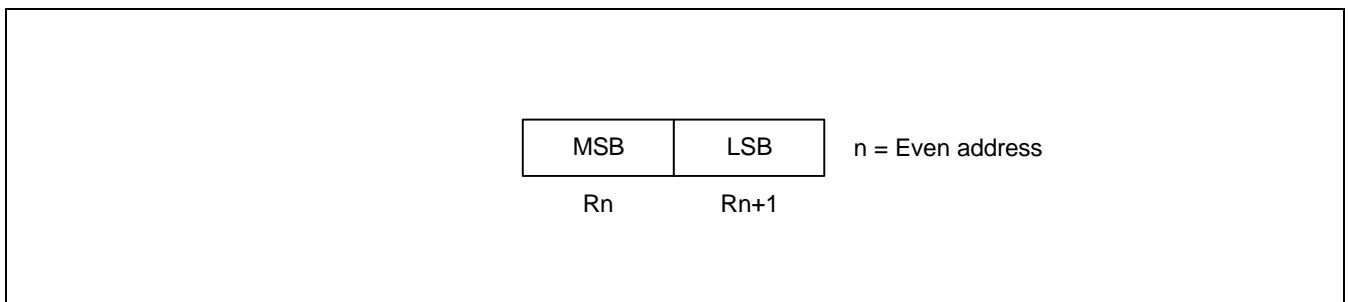

Figure 2-4. 16-Bit Register Pairs
Return addresses for procedure calls and interrupts and data are stored on the stack. The contents of the PC are saved to stack by a CALL instruction and restored by the RET instruction. When an interrupt occurs, the contents of the PC and the FLAGS register are pushed to the stack. The IRET instruction then pops these values back to their original locations. The stack address is always decremented *before* a push operation and incremented *after* a pop operation. The stack pointer (SP) always points to the stack frame stored on the top of the stack, as shown in Figure 2-4.